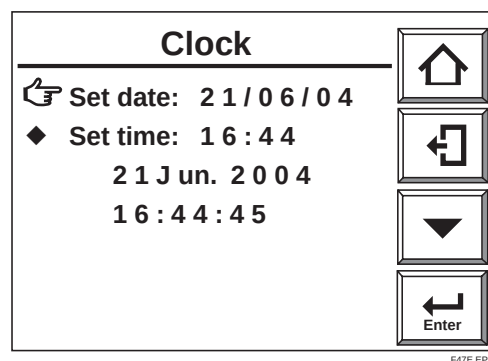

Fig. 8.18. Day and Time setting
- 4) Select [Clock] and the display of Fig 8.18 appears.